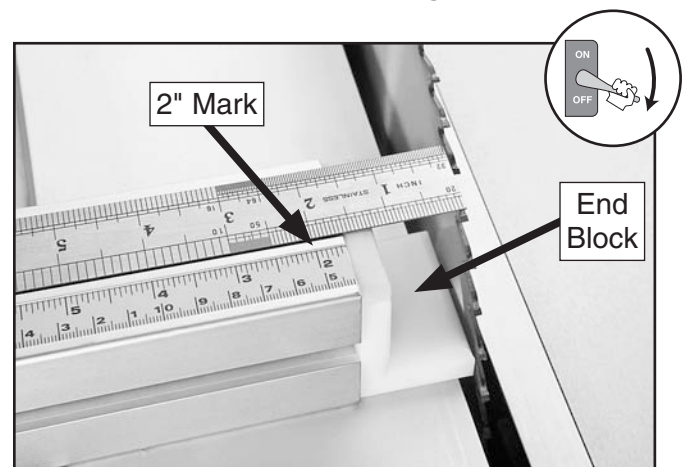

Figure 80. Setting the correct space between the crosscut fence and blade for rip cutting.
4. Use a precision ruler against a tooth of the blade, then adjust the fence so that the 2" mark on the fence scale is exactly 2" from the blade tooth, as shown in **Figure 80**.